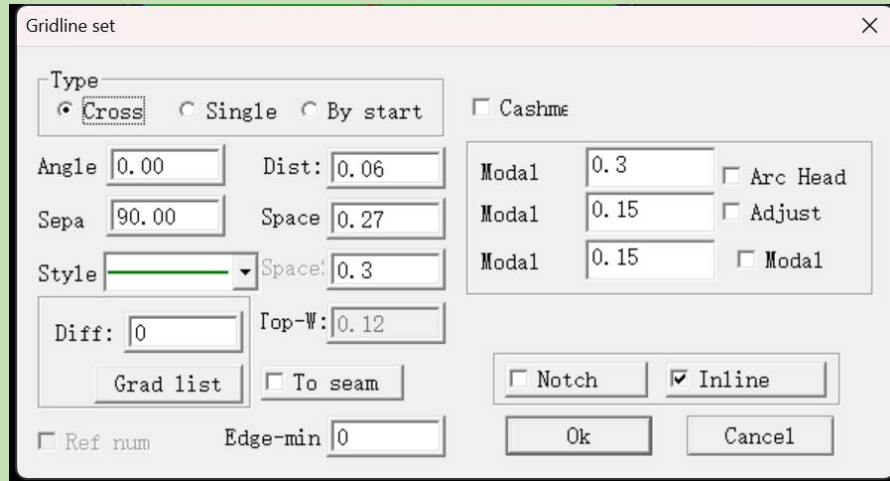
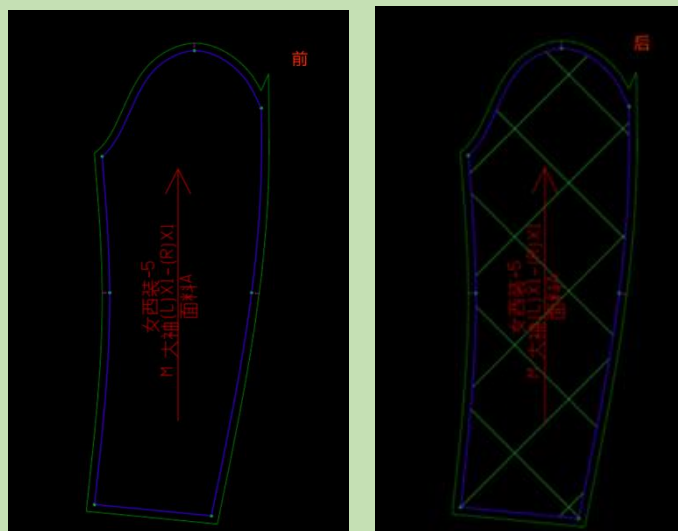

Figure10-16
Figure10-17
3. Set the type and size of the quilting lines as shown in Figure 10-16, and then confirm (Note: You can reset the quilting lines by clicking on them again). Figure 10-17 is the comparison figure before and after setting the quilting lines.